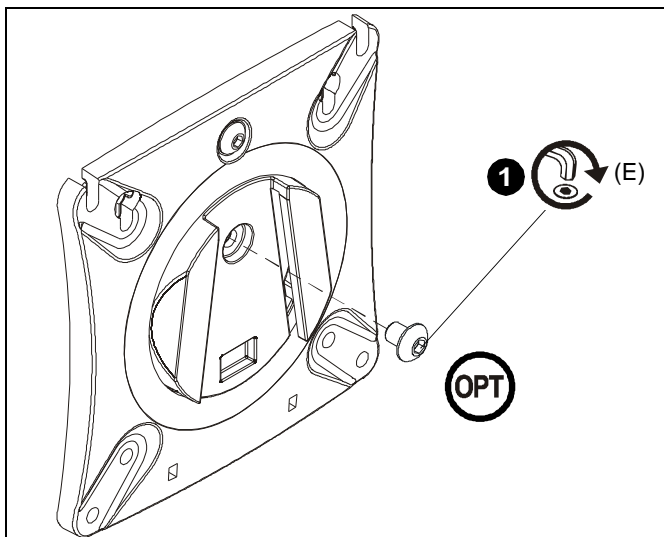

Figure 6
1. **(Optional)** Rotational adjustment may be locked by fastening face plate in place using one 10-24 x 1/4" button head cap screw (H) into back of faceplate. (See Figure 6)
2. Use the 3/16" hex key (N) on the button head cap screw to adjust rotational tension, as necessary.